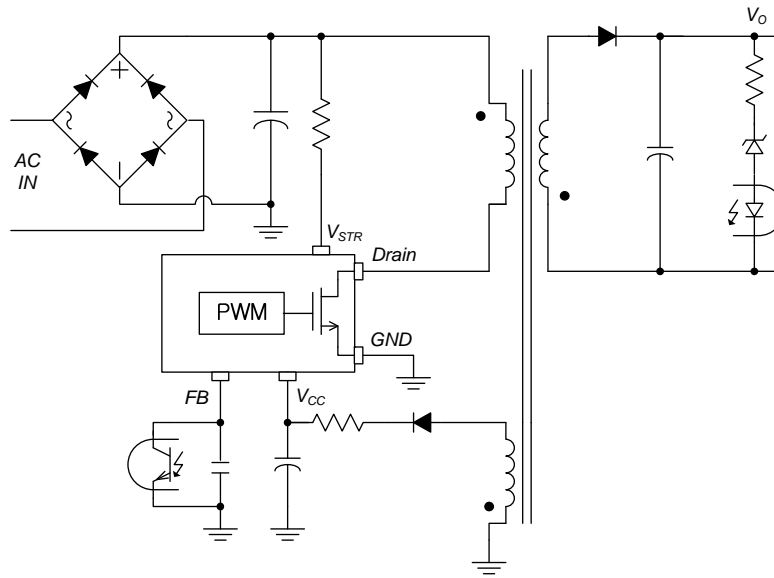

Figure 1. Typical Application Circuit
6. Repetitive peak switching current when the inductive load is assumed: Limited by maximum duty ( $D_{MAX}=0.74$ ) and junction temperature (see Figure 1).